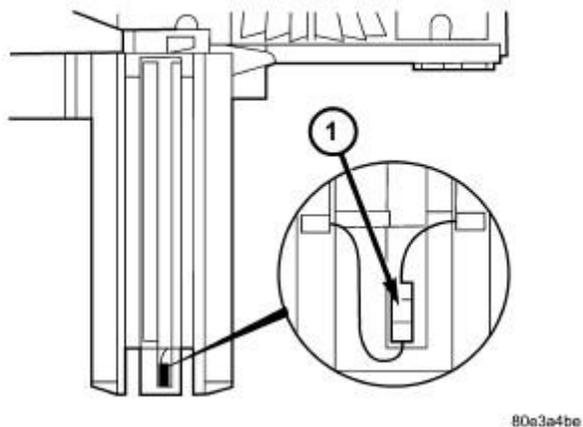

Fig. 155: Cutaway View Of Transmission Temperature Sensor
The transmission oil temperature sensor (1) is located in the shell of the electric valve control unit and is fixed to the conductor tracks. Refer to **Fig. 155**.